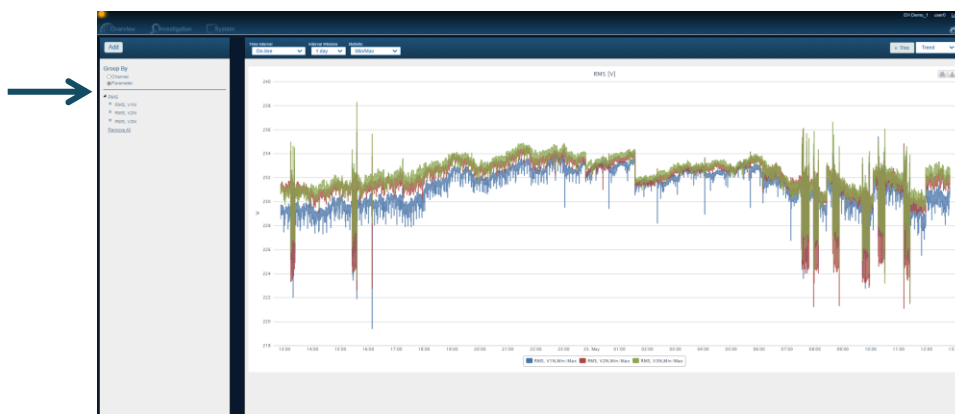

Figure 5-16: Investigate Trends – 2
- 2 If no parameters were added previously, use the **Add** button on the upper-left side to add the parameters to be displayed as a trend, as described on page 106. After you add them, the parameters appear listed in the left pane of the Investigation window, as shown below (Figure 5-16).